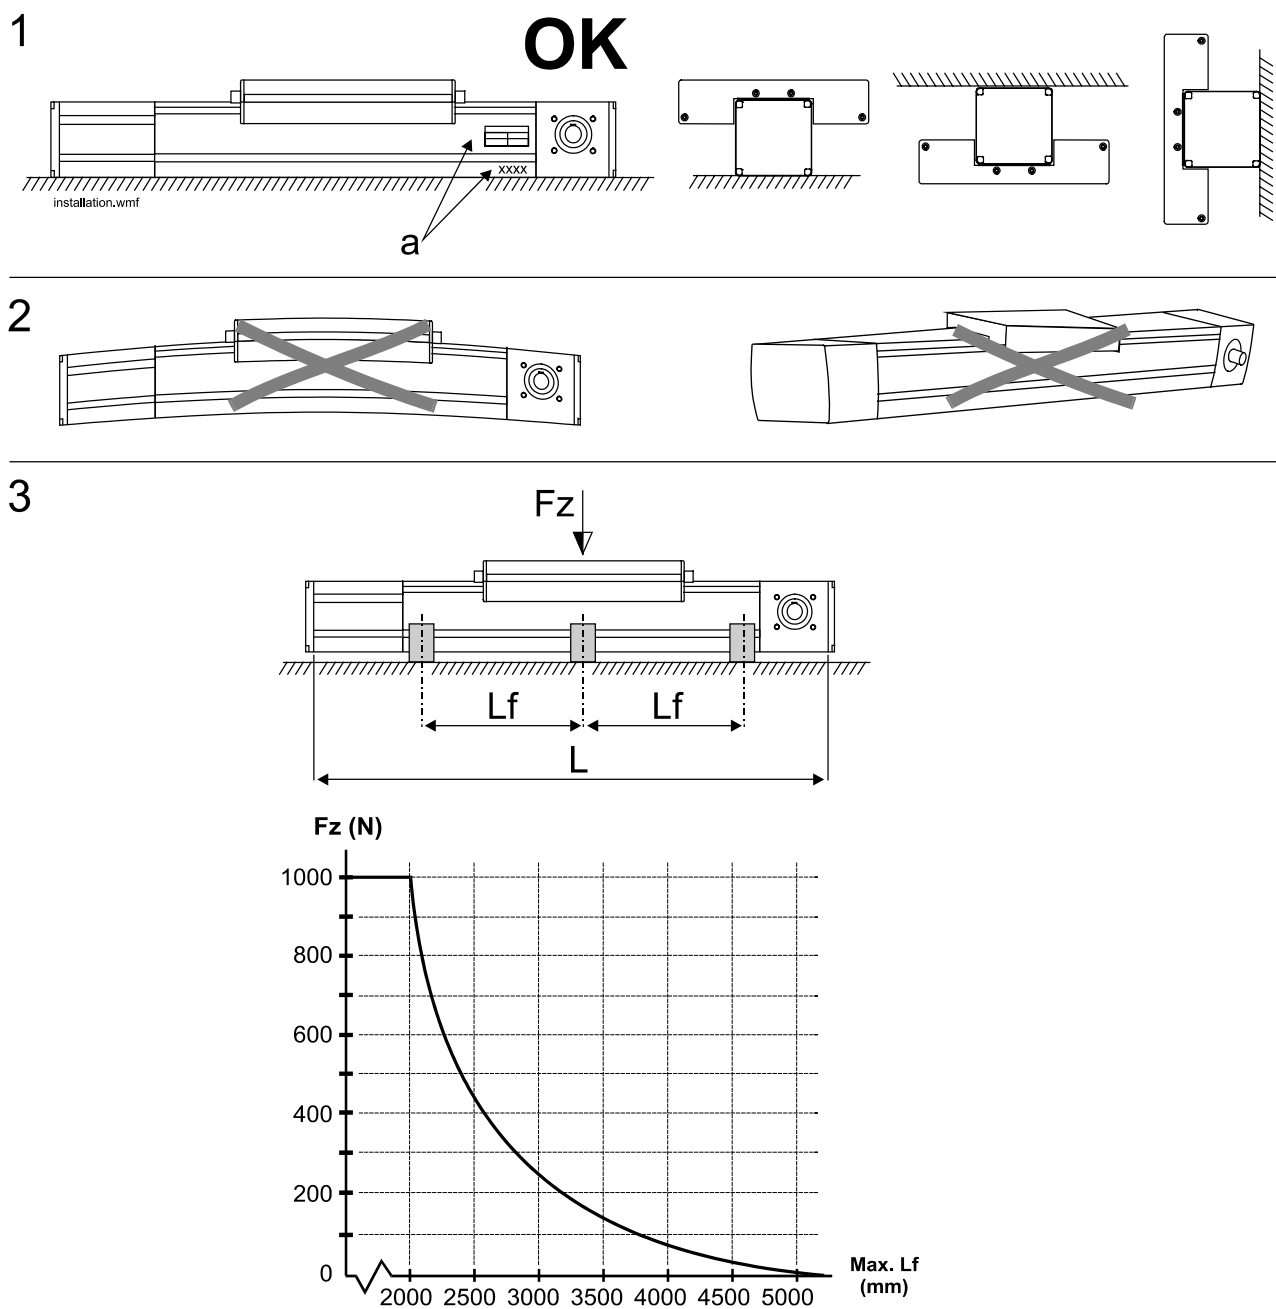

Figure 1: Mounting instructions
In order to be able to use this manual properly, it is important to understand which type of Movopart CB you have. Feel free to contact Tollo Linear if there are any doubts as to the type or if you have any other questions. When you do so, please state the manufacturing number and the type designation of the Movopart CB. See figure 1.
Order length in cm (see measure L in figure 1).....000 – 999
- Follow the recommended service intervals. Replace defective parts immediately. Only use parts of the same make and type as original. Ordering data can be found in the spare part lists supplied with the unit. Also state the manufacturing number of the unit (see figure 1).
AL in meter, see figure 1